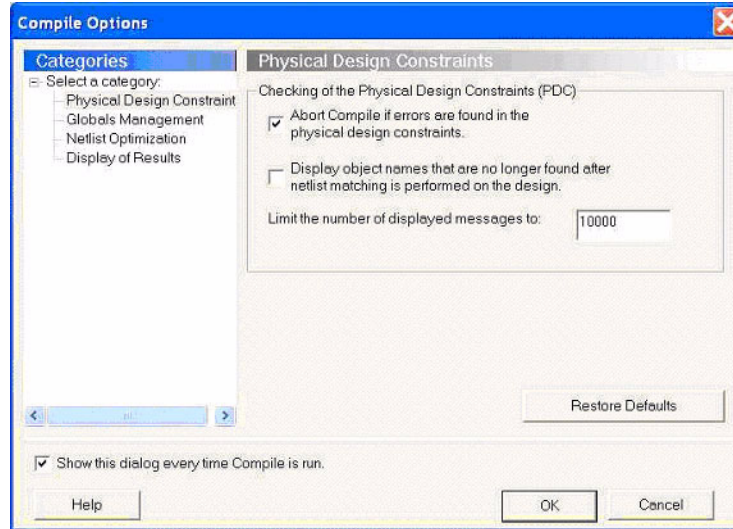

Figure 7-31. Compile Options Window
- Click the **Compile** icon. Leave the default **Compile** settings (Figure 7-31) and click **OK**.